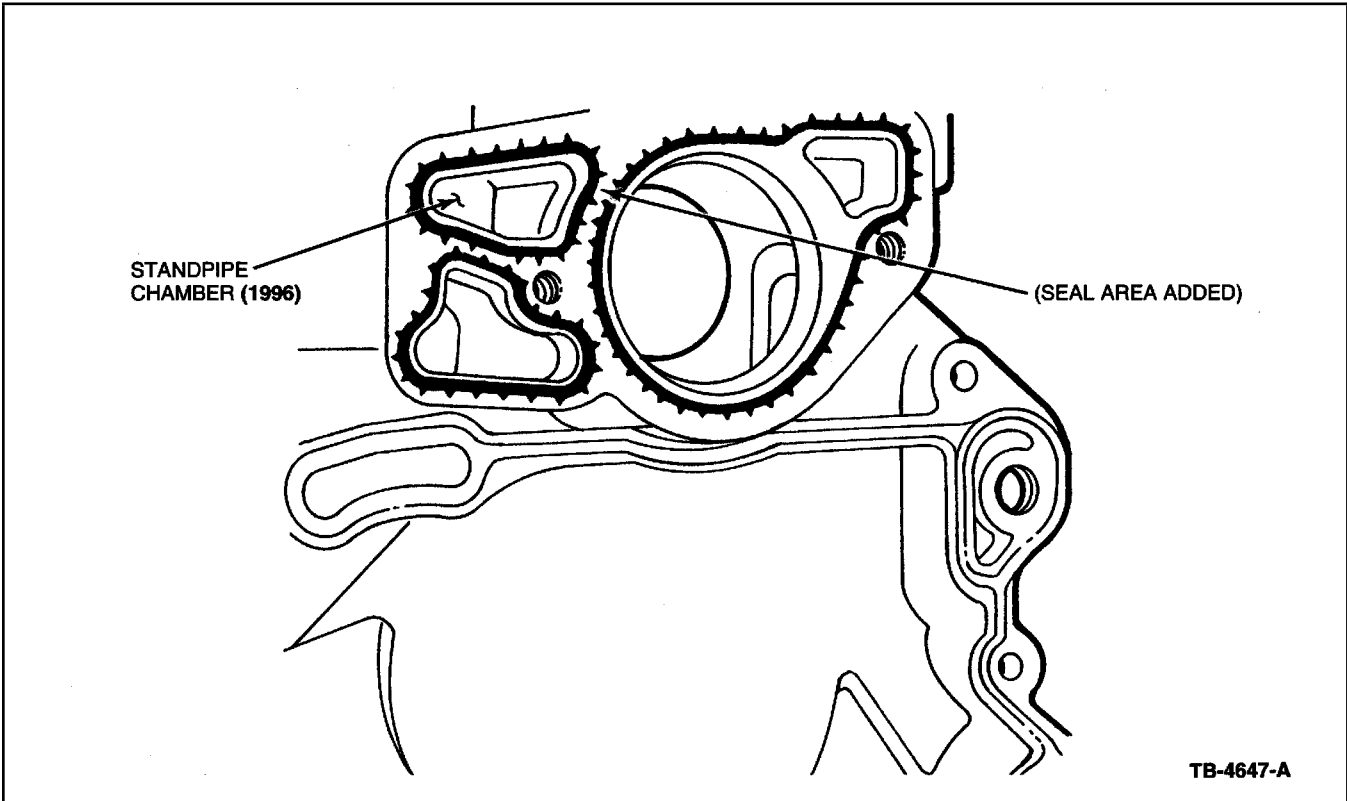

Figure 5 - Article 96-11-13
- New high pressure pump gasket to seal the standpipe chamber between the front cover and the pump. Figure 5.